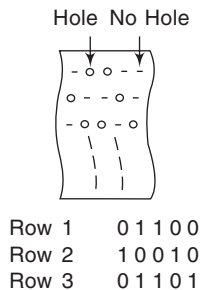

Fig. 1.11
1.6 The absence or presence of holes in paper represent 0 and 1, respectively. What binary numbers does the punched tape in Fig. 1.11 store?